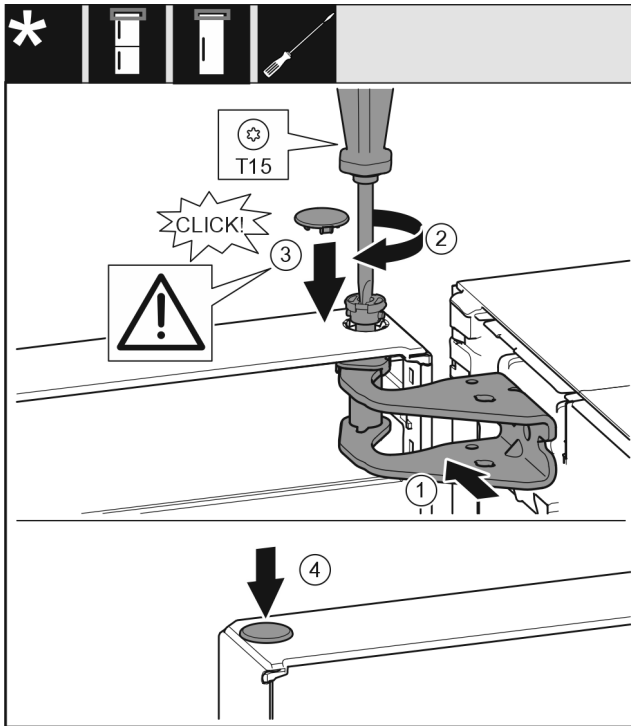

Fig. 32
- Align the top door with the opening in the swap bearing block Fig. 32 (1).
- Insert the bolt Fig. 32 (2) and use screwdriver to tighten it.
- Insert the cover Fig. 32 (3).
- Check that the cover Fig. 32 (3) is resting on the door.
- Insert the cover Fig. 32 (4).